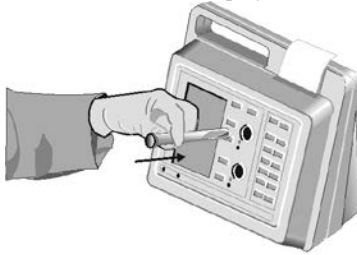

Figure 9. Inserting the Test Tube Into the Well
3. Insert the test tube in the well (Figure 9 below). Quickly rotate the tube clockwise one revolution. The screen will briefly display **DETECTING MAGNET PLEASE WAIT**.